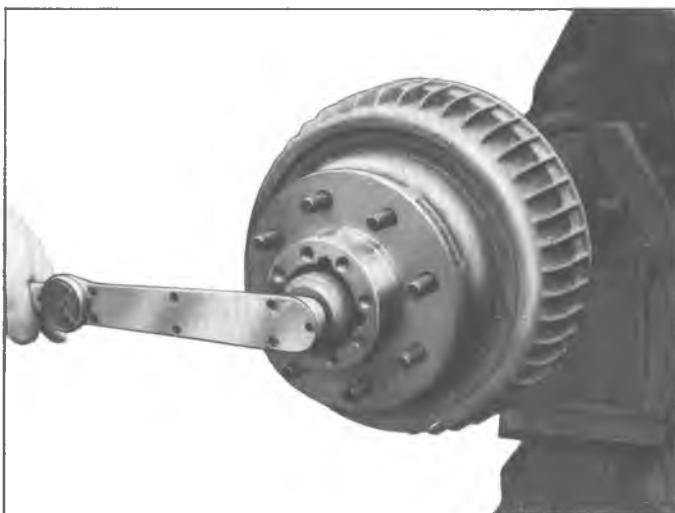

Fig. 68—Tightening Adjusting Nut—Typical
3. Using J-2222, tighten inner adjusting nut to specified torque at the same time rotating hub to make sure all bearing surfaces are in contact. Then back off inner nut to specified amount of turn-back. See figure 68, and refer to Specifications Section for torque values.
See figure 68, and refer to Specifications Section for torque values.